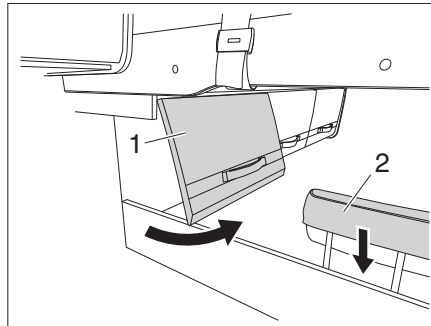

Fig. 145 Storage compartment flap and headrest
- Open the storage compartment flap (Fig. 145,1).
- Lower the headrest (Fig. 145,2).